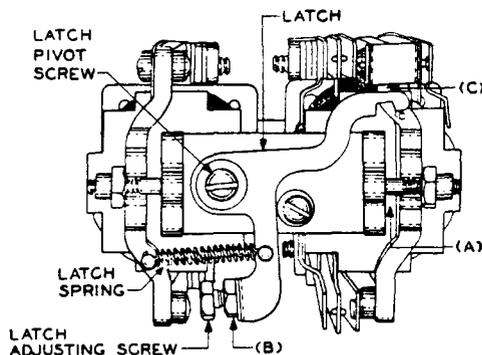

Fig. 105
**2.09 Armature Travel:** Fig. 105(A) — The armature travel shall be in accordance with the value specified for the relay in the "Arm. Trvl." column of the circuit requirement table. The tolerance for test shall be +0.005 inch, -0.0025 inch and for readjust +0.0025 inch, -0.0025 inch.